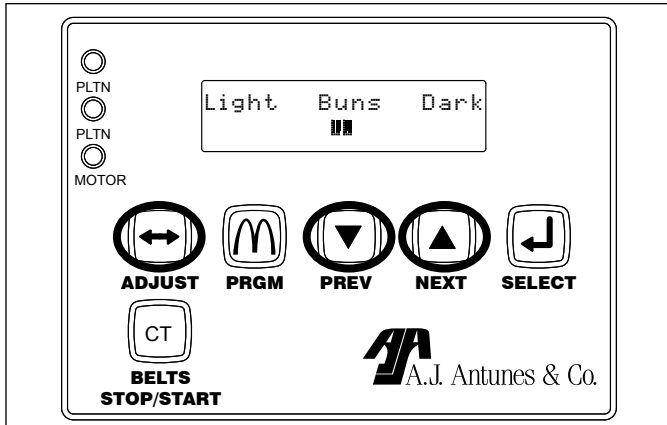

Figure 6. Adjusting Toasting Quality
1. At the back Control Panel, press and release the **ADJUST** button (Figure 6).
2. Use the **PREV** and **NEXT** buttons to adjust the toasting quality to lighter or darker respectively (Figure 6).